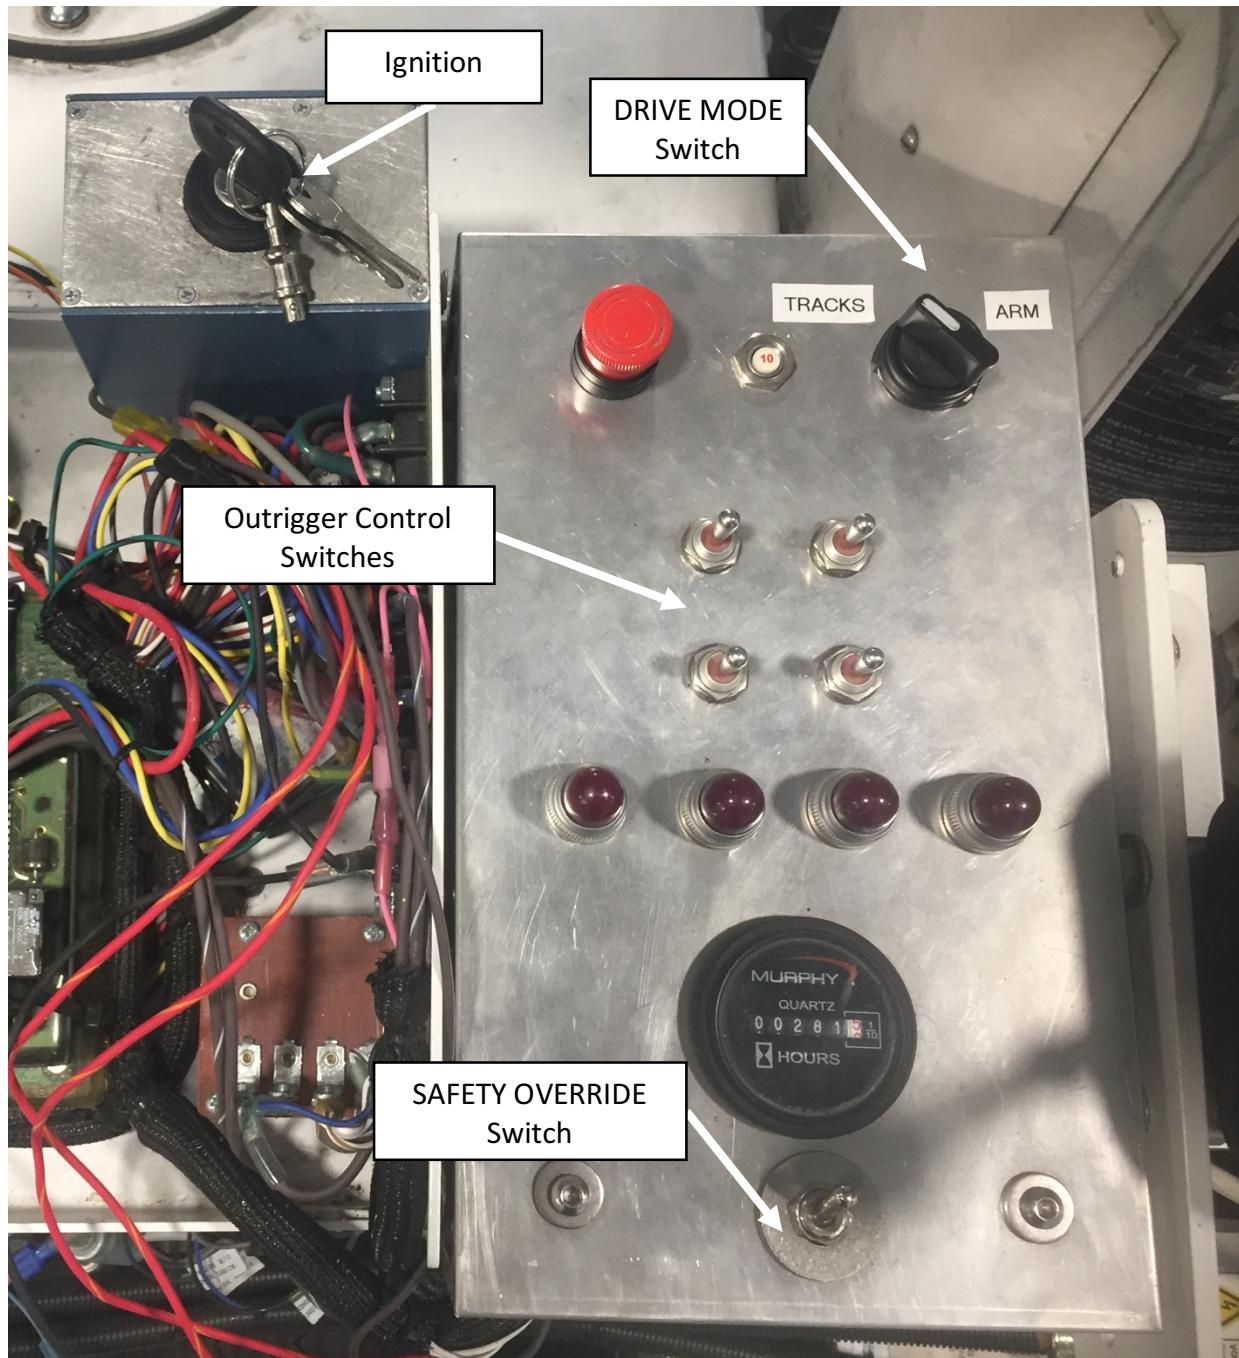

Figure 1: Ignition & Control Panel, AT40GW
- Ignition key is physically prevented from turning to IGNITION position (Fig. 1)
- 3) Turn MODE switch (Fig. 1) to TRACK position, and ensure that SAFETY OVERRIDE switch (Fig. 1) is in UP position.
- 4) Verify that outriggers have been retracted fully. If the outriggers are not retracted fully, use the outrigger control switches (Fig. 1) to retract them.
- 2) Turn MODE switch (Fig. 1) to TRACK position, and ensure that SAFETY OVERRIDE switch (Fig. 1) is in UP position.
- 5) Extend outriggers using the outrigger control switches (Fig. 1). Extend outriggers until vehicle is lifted fully off the ground, and leveled (use indicators on side of vehicle).
- a) **WARNING:** When the override switch (Fig. 1) is enabled, the boom may be operated without the outriggers being extended. This is permissible for a limited range of motions, particularly those where the boom stays centered over the vehicle. However, the boom should NEVER be operated without outriggers extended if the J1 axis is rotating more than 30 degrees; the boom will be extended more than 50%; the vehicle is operating outdoors; or if any substantial load will be applied through the boom.
- 6) Turn MODE switch (Fig. 1) to ARM position.